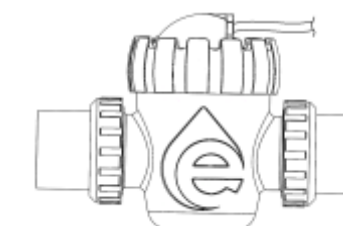

Figure 4
4. Place the electrodes inside the holder and tighten the nut of the cell; connect the electrode cable to the control unit; tighten the nut to ensure the good contact (Figure 4).